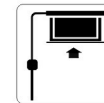

Figure 23
3. Turn the switch to position "-" to lower the screen; it will go up into the metal casing. When it is all the way up, it will stop automatically (Figure 23).